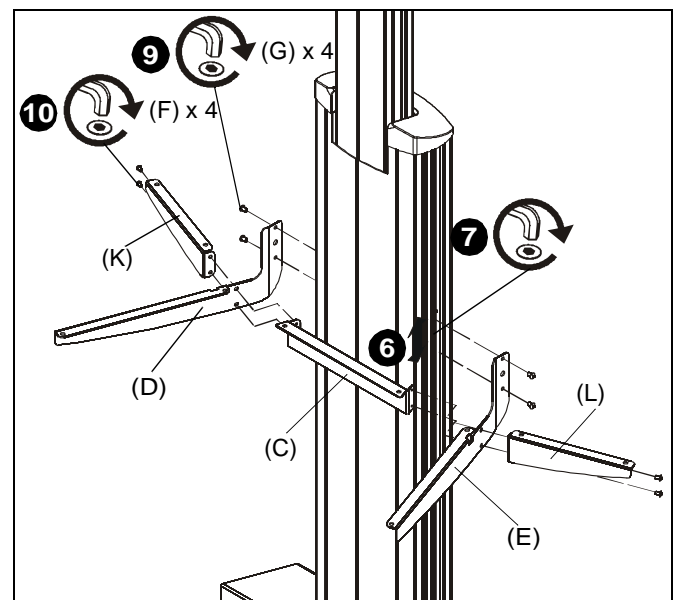

Figure 3
6. Slide accessory bracket (B) up or down in side channel until desired mounting height is reached. (See Figure 3)
7. Tighten set screw (H) to lock bracket in position. (See Figure 3)
9. Use four 1/4-20 x 3/8" button head cap screws (G) to secure right and left shelf supports (D and E) to adapter bracket (C). (See Figure 3)
10. Use four #10-24 x 3/8" button head cap screws (F) to secure right and left horizontal supports (K and L) to right and left shelf supports (D and E) and center support bracket (C). (See Figure 3)